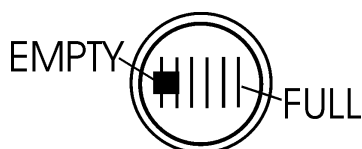

Figure 15. Fuel Gauge
3. Read the fuel gauge located on top of the fuel tank (Figure 15) to determine if the fuel level is low. If fuel is low, replenish with clean unleaded fuel.